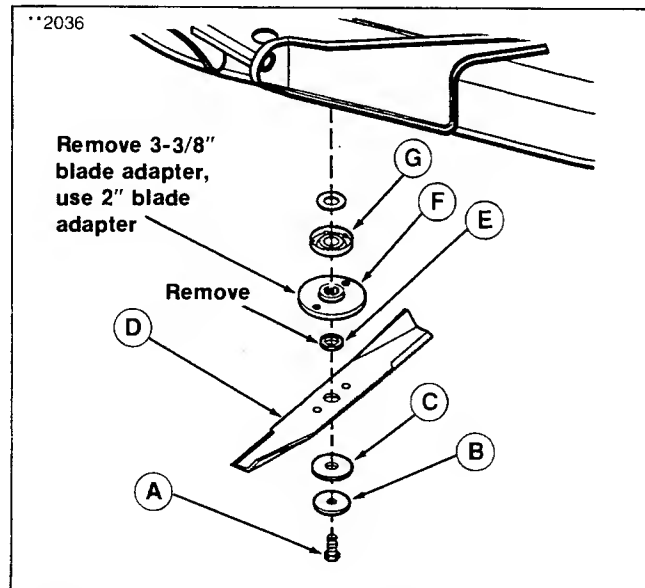

Figure 1A.
3. Remove existing discharge-side blade and retain hardware. Remove the retaining band (E, figure 1A) on arbor shaft and remove the existing splined adapter (F, 3-3/8" O.D.). This adapter can be discarded as new splined adapter (F, 2" O.D.) can be used with regular or high-lift blade. Install new 2" splined adapter with hub seated in grass shield (G).
Install the new high-lift blade (D, figure 1A) with tabs facing underside of mower deck. Secure with existing hardware (A, B & C) and torque capscrew to 50-70 ft. lbs. (68-76 Nm).